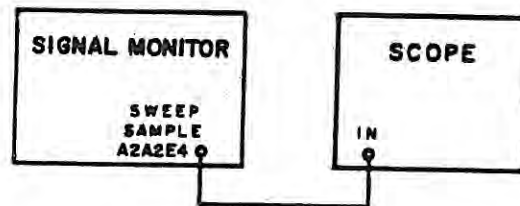

Figure A-4. Test Setup, Sweep Rate Calibrate
- (1) Connect the equipment as shown in Figure A-4 and set front panel SWEEP RATE control fully clockwise.
- (2) Adjust sweep rate calibrate potentiometer R54 on the control board to obtain a 2.5 Hz sawtooth waveform on the oscilloscope.
- (3) Ground the oscilloscope input and establish a zero volt reference on the x axis. Then, establish a vertical sensitivity sufficient to observe a 10 V p-p waveform.
- (4) Obtain the sawtooth waveform on the oscilloscope; then, on Control Board (A2A2), adjust sweep balance R6 and sweep calibrate R9 to obtain a 10 V p-p sawtooth centered on the zero reference established on the x axis.
- (5) Adjust the horizontal width control R13 on the control board to obtain a trace that extends just beyond the full width of the CRT screen. This completes this series of adjustments.